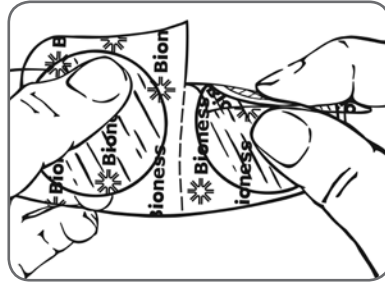

Figure 51: Separating the new hydrogel electrodes.
4. Separate the two new hydrogel electrodes along the perforation. See Figure 51.